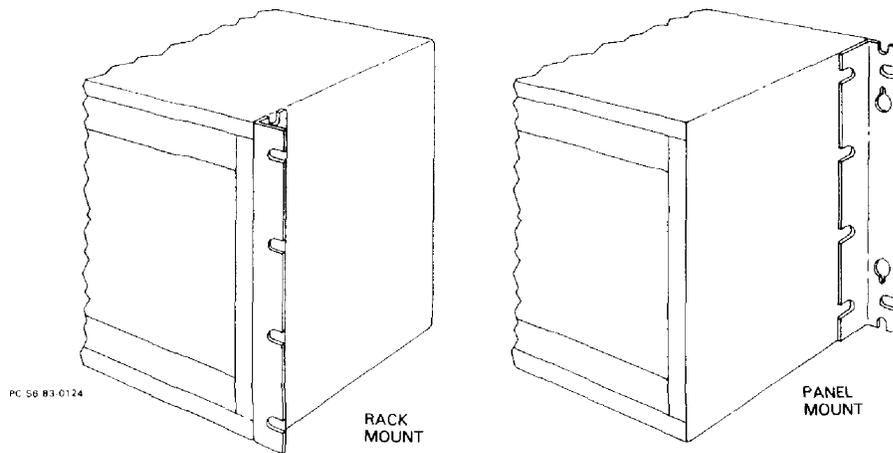

Figure 2, Use of Mounting Brackets
1. The I/O rack can be rack-mounted or panel-mounted. The location and orientation of the mounting brackets depends on the mount. Refer to Figure 2.